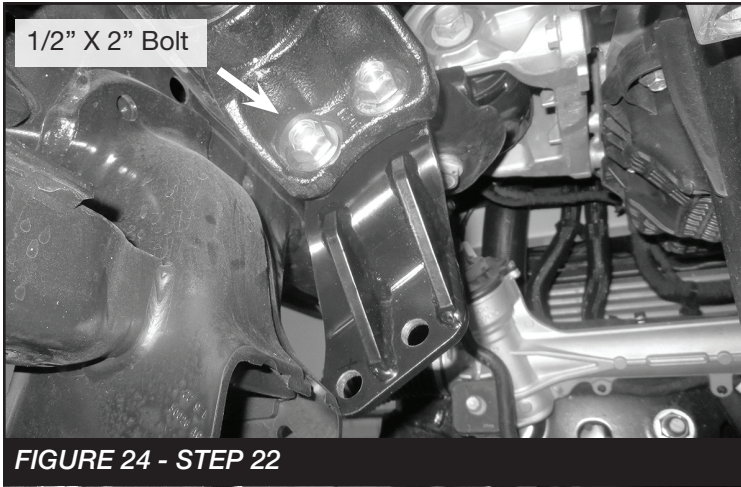

FIGURE 24 - STEP 22
22. Install FT31050 (Driver upper diff bracket) using the supplied 1/2" x 2" bolts, nuts and washers. **SEE FIGURE 24**